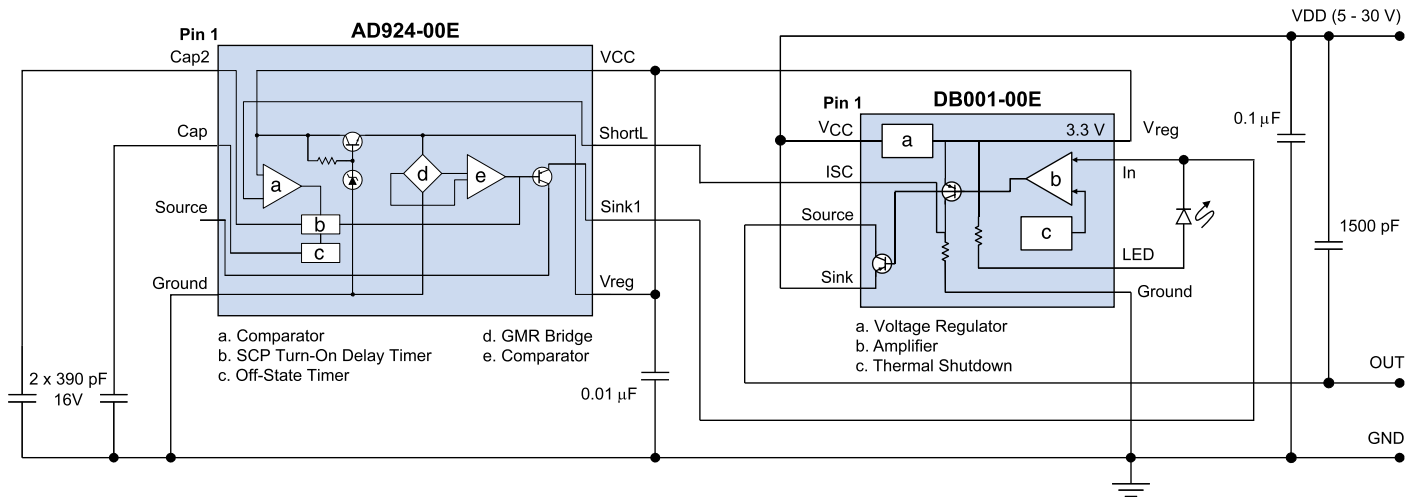

Figure 10. A GMR Switch with an external power switch IC for a high-power output, bullet-proof system.
- Added cross-axis versions to Figures 10 and 11 graphs (p. 8).